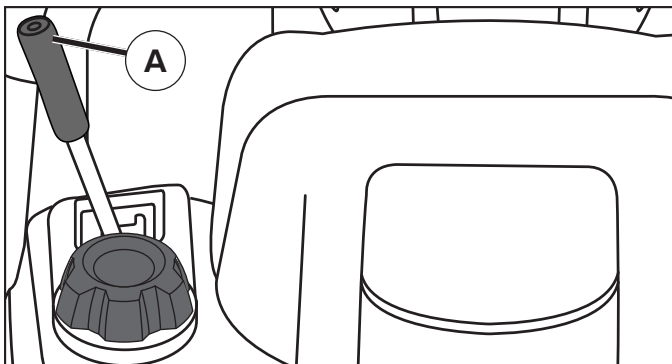

Fig. 8
- Slowly depress forward (K) or reverse (L) drive pedal to begin movement. Ground speed increases the further down the pedal is depressed.
## TO USE CRUISE CONTROL (J) (See Fig. 8)
## TO ADJUST MOWER CUTTING HEIGHT (See Fig. 8)